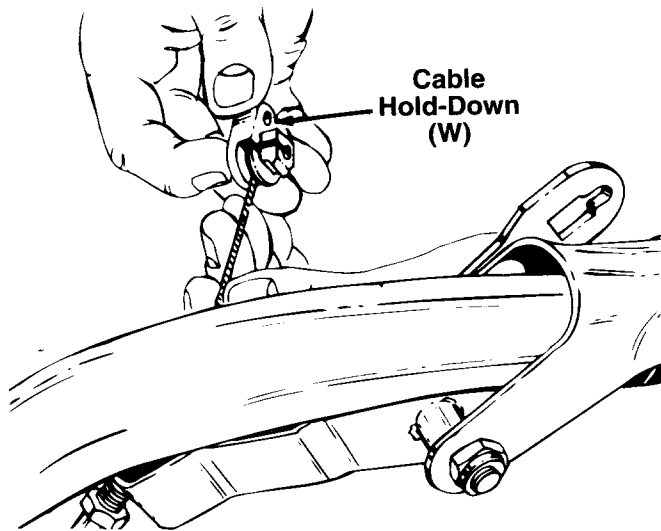

FIGURE 7.
- b. Hook the barrel end of the cable into the cable hold-down (W). Slide the cable around in the slot as shown in figure 7.